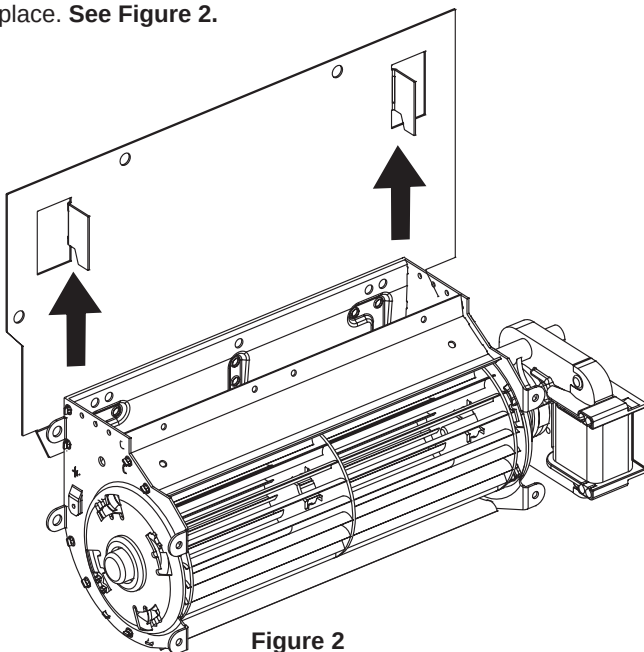

Figure 2
2. Install the blower onto the pre-bent brackets on the blower plate. Ensure the Velcro connects to secure the blower in place. **See Figure 2.**